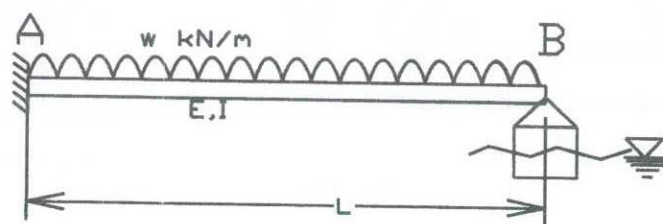

Fig. Q1
- Q1. Straight elastic beam AB of uniform cross section with constant flexural rigidity of EI deployed to anchor boats in a jetty is shown in the Fig Q1. Beam is permanently fixed to the Jetty at point A and floats on top of a cylindrical buoy radius R (in m) at point B as shown in Fig. Q1. Beam is expected to support a uniform distributed load of intensity w kN/m at critical condition. Using three moment theorem, derive an expression for the reaction at the floating support B (symbolic form). Ignore the self-weight of the beam AB and the self-weight of the Buoy (float). Consider float is at same level of the fixed support when the beam is in unloaded conditions. The buoyancy force of the float (uplift force acting on the structure due to water pressure) for 1 m length of immersion shall be taken as k ($=\pi R^2 \rho g$). Assume that the water level remain constant along the section of the water way where the jetty is constructed.